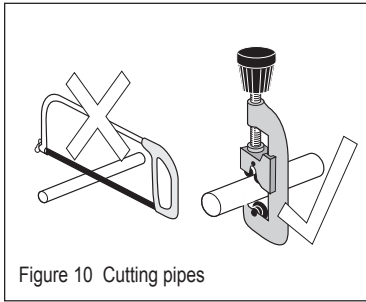

Figure 10 Cutting pipes
- 5.12 Cut all necessary pipework to length with a pipecutter and not a hacksaw. This will minimise the swarf and prevent damage to the sealing o-ring in the pushfit fitting - see Figure 10.